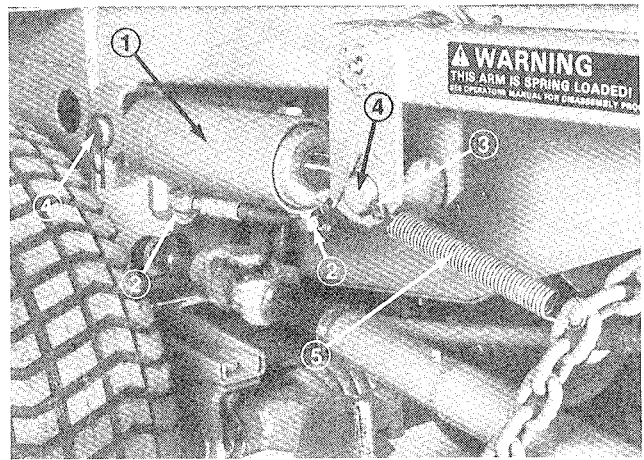

Figure 65
2. Remove hoses from lift cylinder (Fig. 65) and cap the hoses to prevent contamination.
3. Remove hair pin cotters and spring from cotter pin. Remove pins and slide cylinder from between the lift arm and the stationary mounting bracket (Fig. 65).
4. Install new cylinder with pins, and assure the cotter pin (Fig. 65) securing moveable end of cylinder is to the outside. Hook chain tension spring through eye of cotter pin.